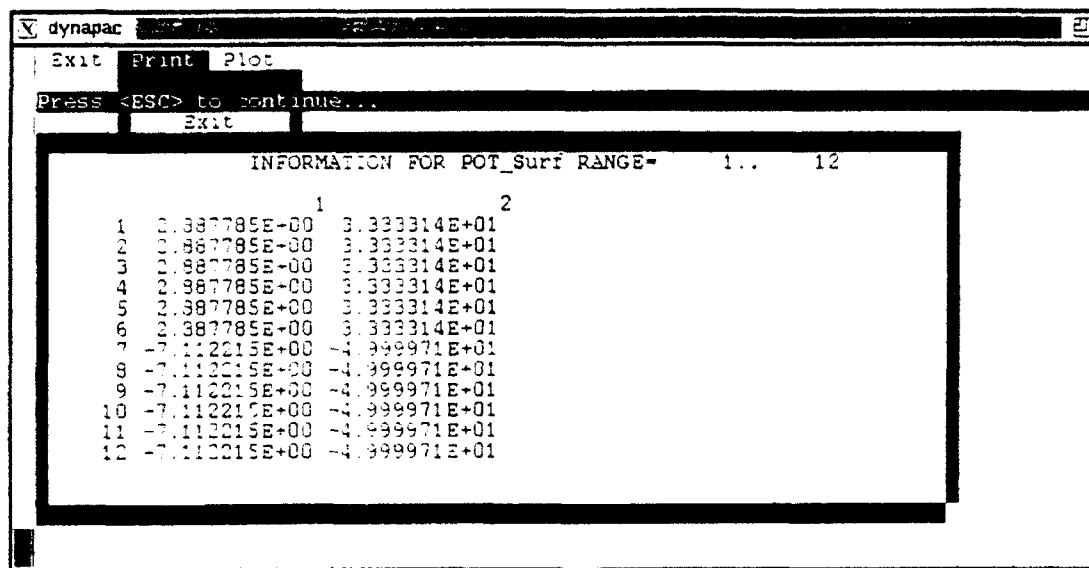

Figure 5.6 Surface Floating Potentials and Fields.
3. Select "Edit Print" and toggle "Output Mode" from "FILE" to "SCREEN." Exit this form and select "Make Print." The screen will display all surface potentials and fields as in figure 5.6. Note that the total net charge on the two cubes is almost zero. Exit this screen and go back to main Scanner menu.